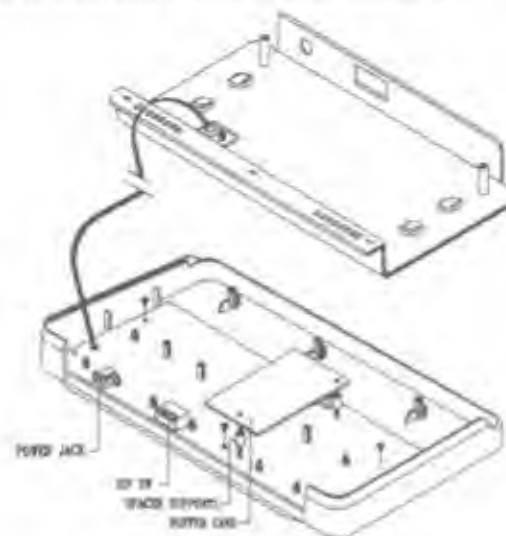

Fig. 2.3 Place the plastic cover
- 2) Place the plastic cover up side down as in Fig. 2.3